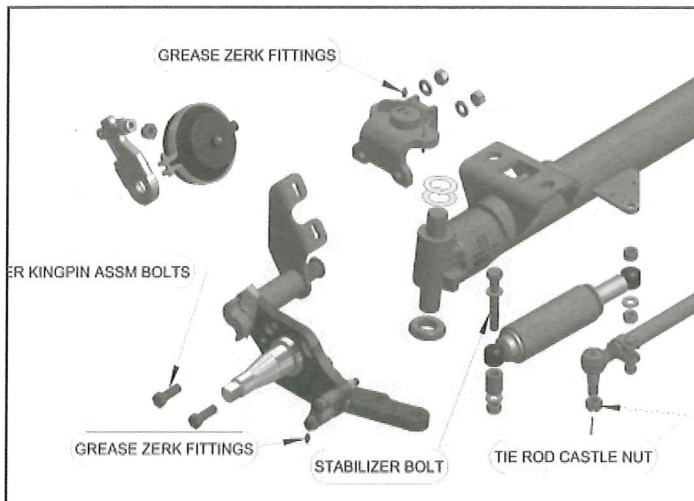

Figure 7 Knuckle Disassembly
3. Remove the tie rod assembly. (See Figure 7)